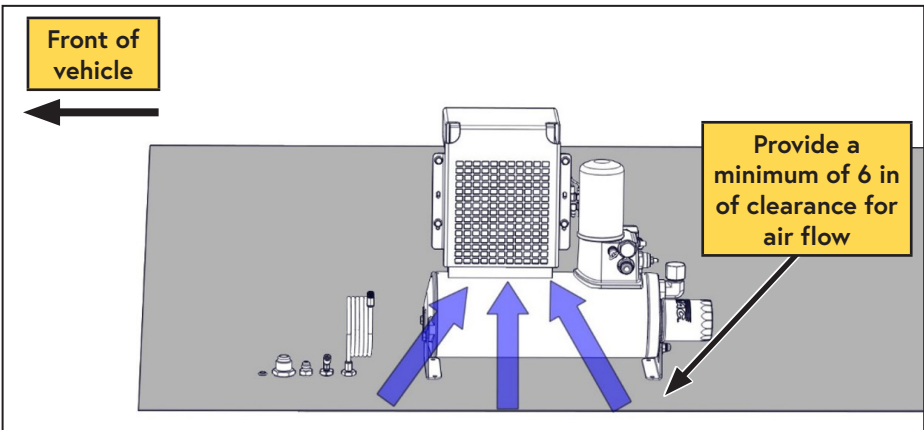

Figure 26 — WHASP ventilation
**A minimum of 6 in of clearance is recommended around the radiator (intake) side of the WHASP Tank to allow fresh, cool air to circulate into the cooler and fan (Figure 26).**